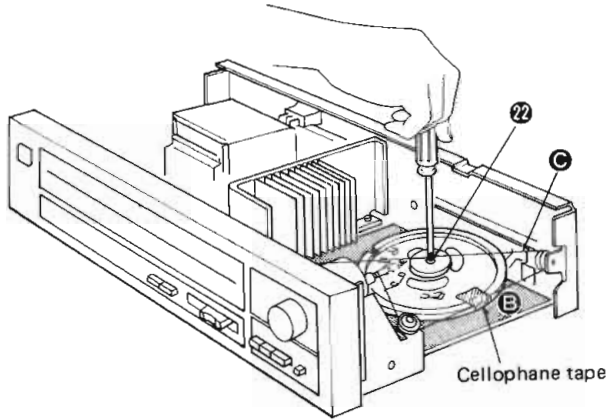

Fig. 5
2. Set the dial to the start position (minimum frequency), then stick a cellophane tape to the contact **B** of dial cord (Fig. 5) so that the dial drum will not come loose from the dial cord.
3. Remove the 1 setscrew (Fig. 5 : **22**) from the dial drum.
4. Remove the dial cord from the pulley. (Fig. 5 : **C**)